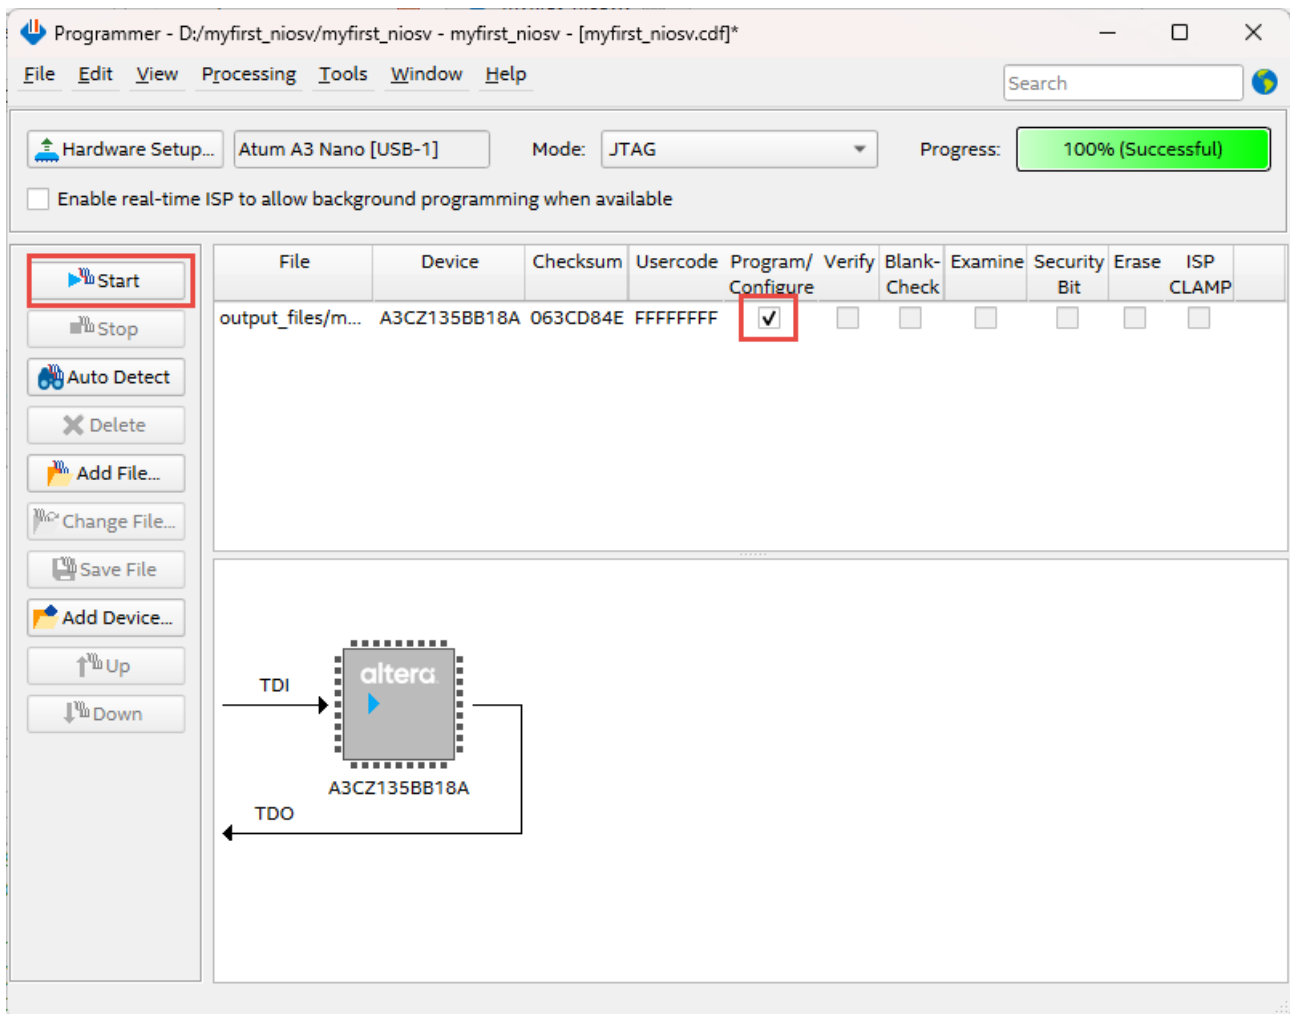

Figure 2-43 Programmer
15. Turn on the **Program/Configure** option for the programming file. (See Figure 2-43 for an example).